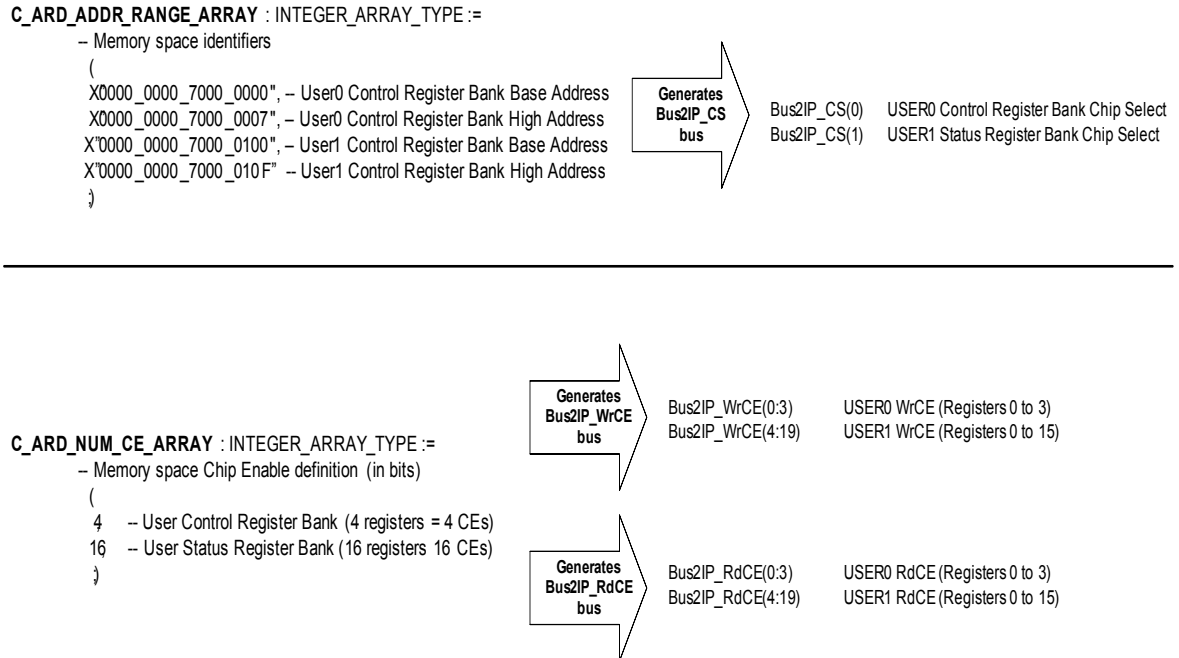

Figure 12: ARD Arrays and CS/CE Relationship Example
Implementing Chip Select (CS) and Chip Enable (CE) signals is a common design task that is needed within microprocessor based systems to qualify the selection of registers, ports, and memory via an address decoding function. The PLB Slave Attachment implements a flexible technique for providing these signals to Users via the ARD parameters. As such, the User must understand the relationship between the population of the ARD array parameters and the Bus2IP\_CS, the Bus2IP\_RdCE, and the Bus2IP\_WrCE buses that are available to the User at the IPIC interface with the Slave Attachment. An example of ARD Array population and the resulting CS and CE bus generation is shown in Figure 12. The timing characteristics of these signals are shown in the section titled "IPIC Transaction Timing" on page 14. The signal set to use for User IP functions is up to the User and the design requirements. Unused CE and CS signals and associated generation logic will be 'trimmed' during synthesis and PAR phases of FPGA development.